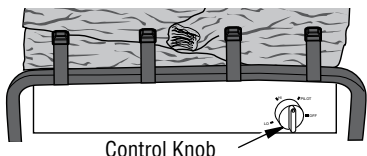

Figure 39 - Control Knob and Igniter Button Location
4. Wait five (5) minutes to clear out any gas. Then smell for gas, including near the floor. If you smell gas, STOP! Follow "B" in the safety information, column 1. If you don't smell gas, go to the next step.
5. Press in control knob and turn counterclockwise  to the PILOT position (see **Figure 39**). The Igniter will spark once. Keep control knob pressed in for 5 seconds. If control knob does not pop up when released, contact a qualified service person or gas supplier for repairs. *NOTE: You may be running this heater for the first time after hooking up to gas supply. If so, the control knob may need to be pressed in for 30 seconds or more. This will allow air to bleed from the gas system.*